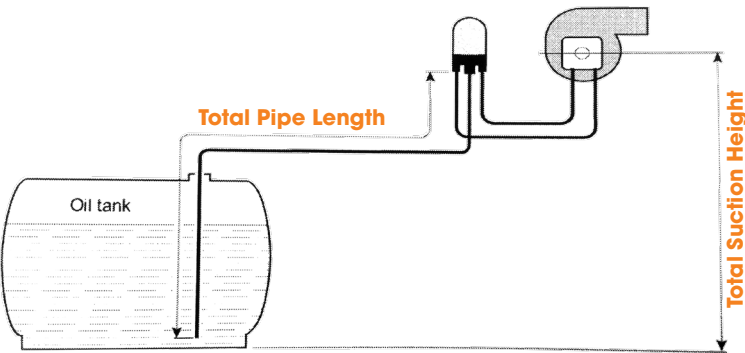

Fig. 9
- The pipes that connect the tank to the burner should be air tight. We recommend the use of copper or steel pipes of a adequate diameter (see Fig 9 / 9.1 below).